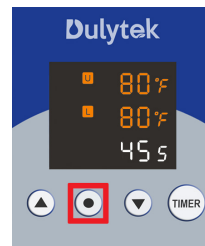

Fig. 7
7. Press Set **⊙** button to go to the temperature scale selection mode (Fig. 7). Tip: Depending on your machine's default settings, you may either see "F" or "C" on the display indicating the currently selected temperature scale (°F or °C).